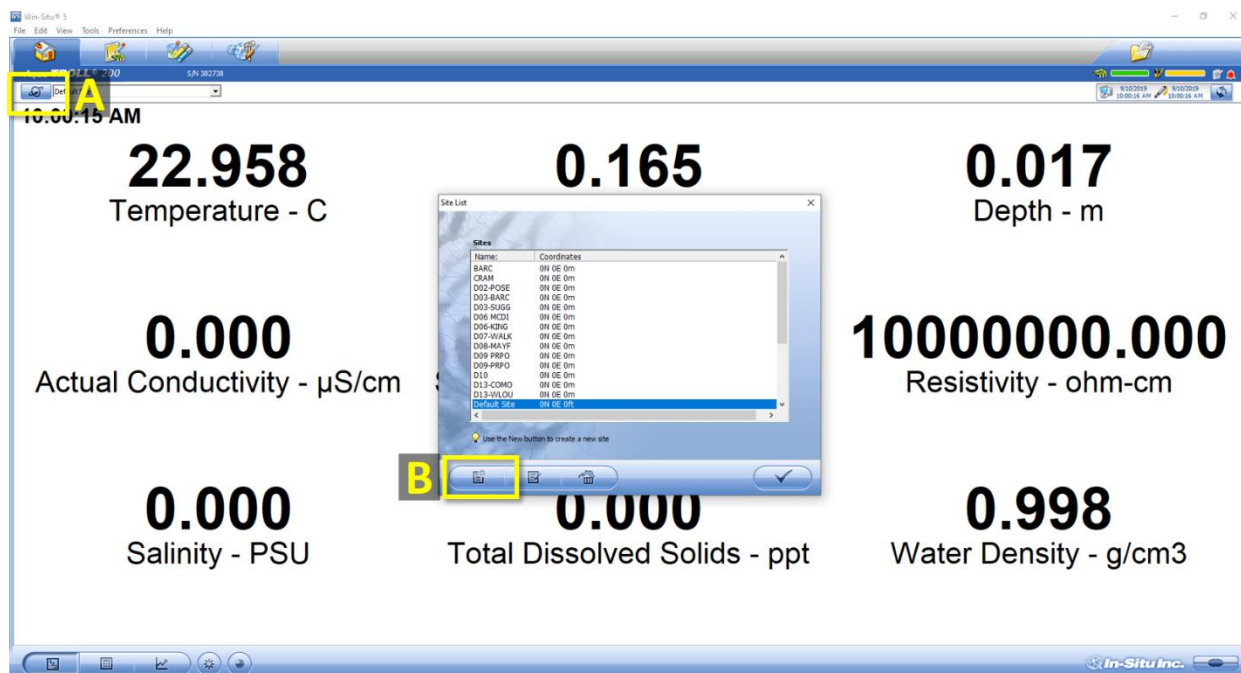

Figure 36. How to Add a New Site Name to the Logging Wizard Site List Dropdown from WinSitu Software Homepage
1. From the WinSitu-5 homepage, select the Planet icon in the upper left hand corner of the screen (A in **Figure 36**). Then from the **Site List** pop-up window, select the New Document icon (B in **Figure 36**).